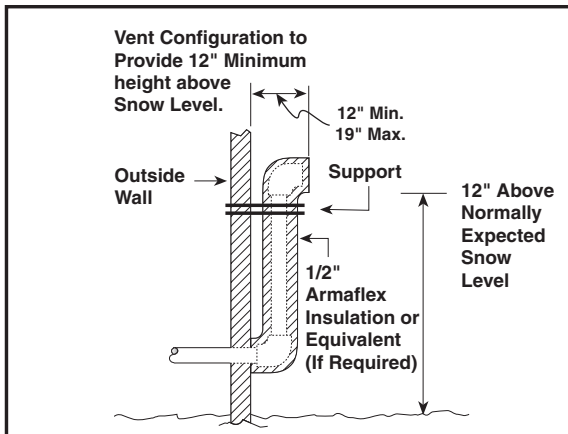

Figure 21. Alternate Horizontal Vent Installation
4. Insure the combustion air inlet pipe (for a 2 pipe installation) has a 90 degree termination elbow as shown in Figures 21 and 22.
For a right side drain simply extend the tubing out of the 7/8" hole in the cabinet, see Figure 21. For a left side drain follow the steps below: